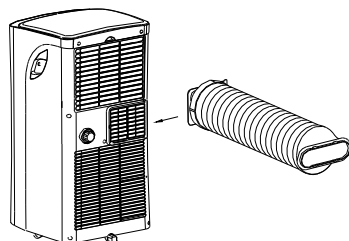

Fig.18
2. Push the Exhaust hose into the air outlet opening along the the arrow direction(See Fig.18).